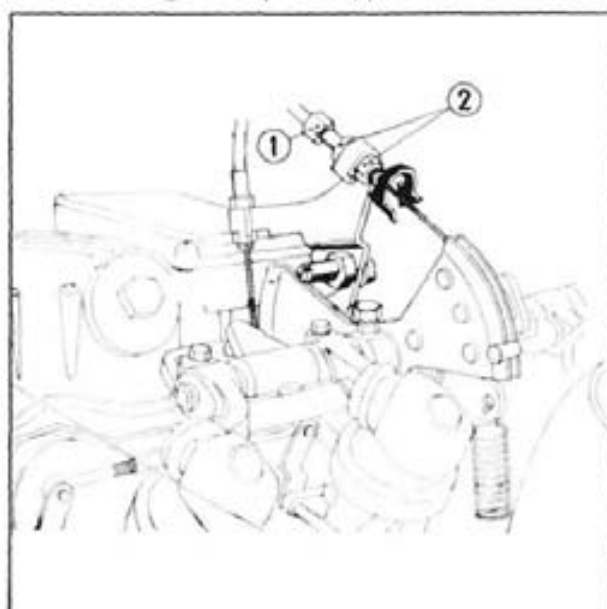

Fig. 20-20 Throttle cable adjustment
2. Turn the adjuster nut at the carburetor end to provide a 0.12-0.16 in. (3-4 mm) play at the grip flange. (Fig. 20-20)